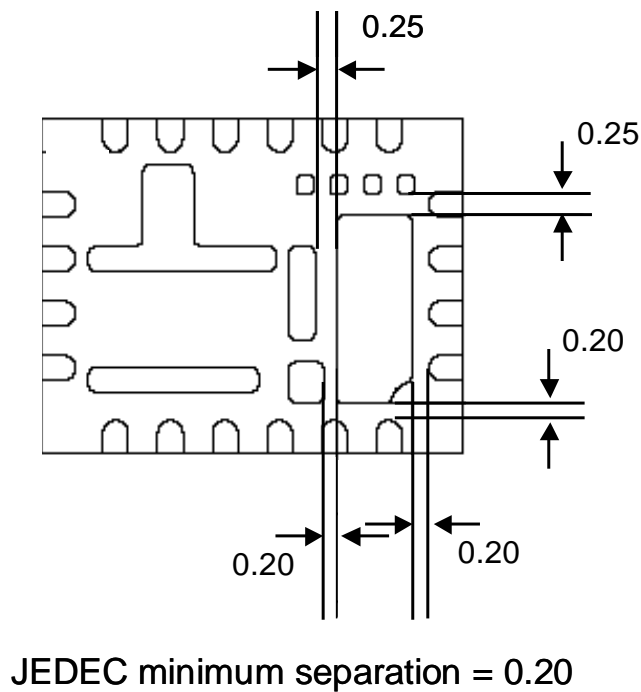

Figure 10. Exposed pad clearances; the Enpirion lead frame package complies with JEDEC requirements.
**NOTE:** Clearance between the various exposed metal pads, the thermal ground pad, and the perimeter pins, meets or exceeds JEDEC requirements for lead frame package construction (JEDEC MO-220, Issue J, Date May 2005). The separation between the large thermal pad and the nearest adjacent metal pad or pin is a minimum of 0.20mm, including tolerances. This is shown in Figure 10.